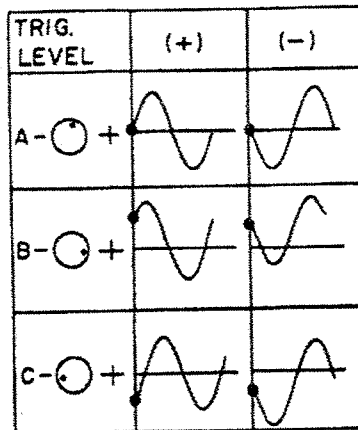

Fig. 3 Effects of triggering LEVEL control
To use normal triggering mode, apply a vertical input signal to the INPUT connector (13). Set the scope controls for a basic signal display. Set the MODE switch to the NORM position. The voltage level of the displayed waveform that triggers the horizontal sweep is now controlled by the LEVEL control (4). If the input is a sine wave, the function of the LEVEL control is shown in Fig. 3.
With the LEVEL control pushed in (column (+) in Fig. 3) the trigger will occur on the positive-going portion of the waveform. When the LEVEL control is pulled out, the trigger will occur on the negative-going slope of the waveform (column (-) in Fig. 3). When the LEVEL control is moved clockwise, the triggering point will move more positive on the waveform (line B on Fig. 3). If the LEVEL control is turned counterclockwise, the triggering point will move more negative on the waveform (line C on Fig. 3). The display must be at least one division high to obtain proper triggering. Turning the trigger LEVEL control to the extremes may cause the trigger level to be set beyond the voltages of the displayed signal, which will result in cessation of the sweep.